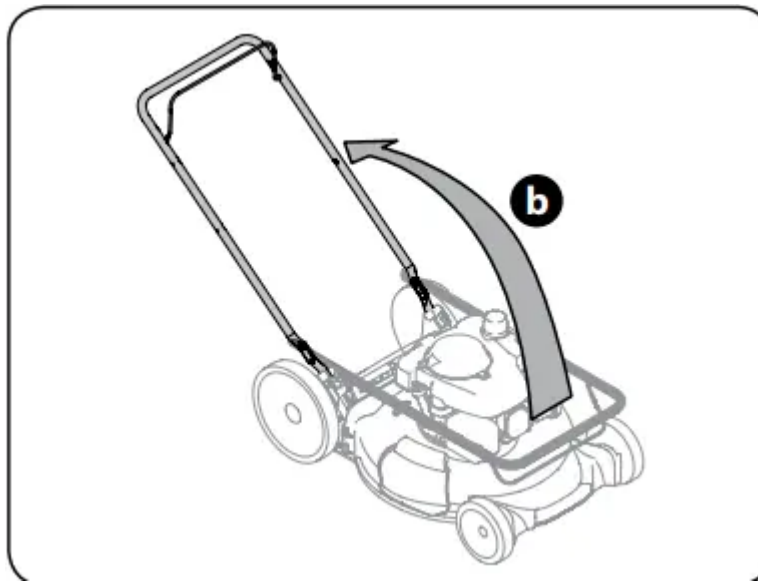

Figure 2
b. While stabilizing mower so it doesn't move, pivot upper handle up as shown in Figure 2. Do not crimp cable while lifting the handle up.